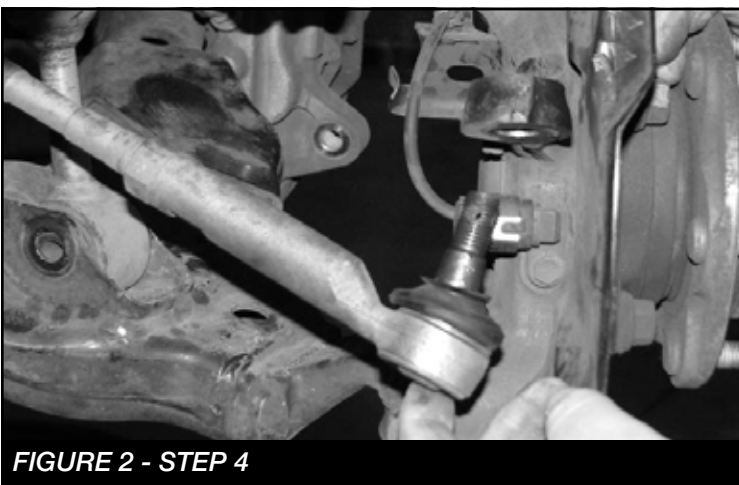

FIGURE 2 - STEP 4
4. Remove the nut from the tie rod ends. Disconnect the tie rod ends from the steering knuckle by striking the knuckle with a large hammer to dislodge the tie rod end. Use care as to not hit the threads on the tie rod end with the hammer as you will damage them. Save all hardware. **SEE FIGURE 2**